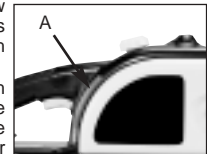

Fig. 8
The oil tank level can be checked in the inspection window (A) provided on the right side of the saw. Tank is full when oil is at the top of the slot (Fig. 8).